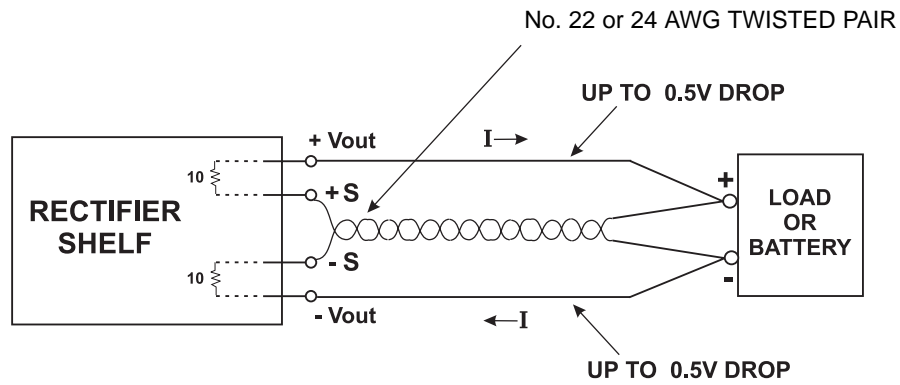

Figure 8. Remote Sensing Connection
- 13.6 Remote Sensing.** Remote sensing connections are made to pins 11 (+Sense) and 23 (-Sense) of the rectifier shelf J1 connector. Remote sensing is used to regulate the output voltage at the point of load, i.e., a battery or other load, by compensating for the voltage drop in the wires to the load. The +Sense lead must be connected to the + side of the load and the -Sense to the - side of the load. The sense leads should be a color-coded, twisted pair of AWG no. 22 or 24 copper wire. See Fig. 8.